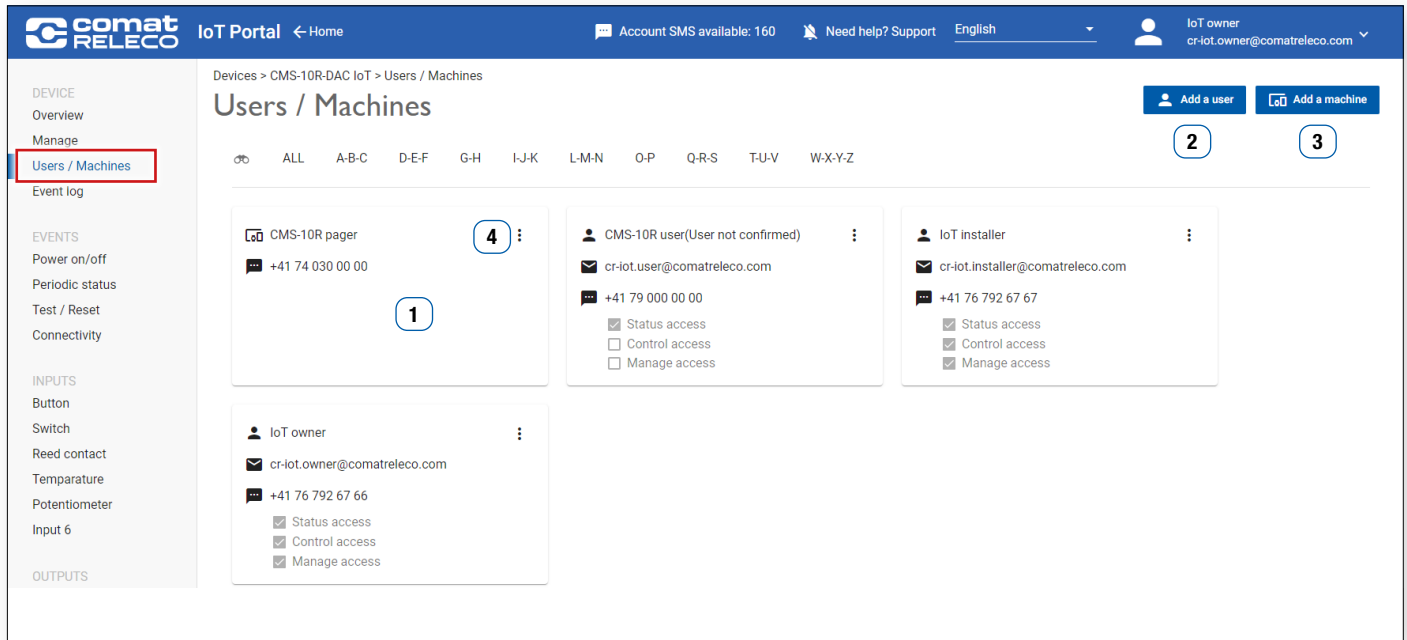

Figure 46
Press the **Add a user** button (Figure 46 (2)) to open this window.
This window is called up on the business card via the **Edit** menu items (Figure 46 (4)).
Use the **Add a machine** button (Figure 46 (3)) to open this window.